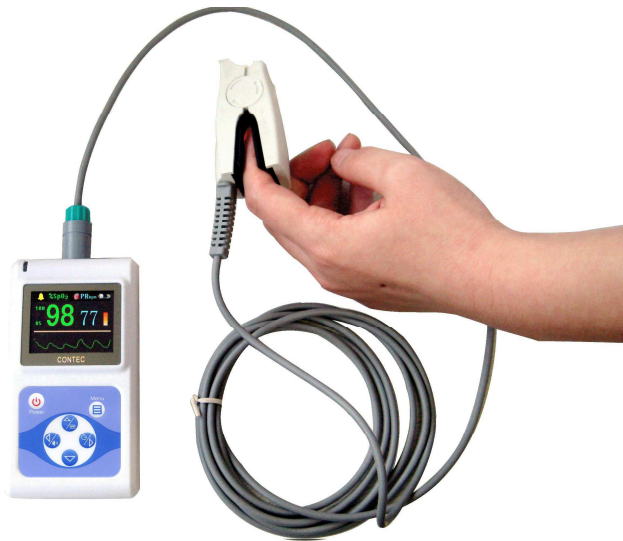

Figure5.
- b) Put the finger into the probe. Refer to Figure 5.
( Actual probe may be different with the probe as figure 5, please accept the actual probe with the device )
B. The finger should be in a proper position (see the attached illustration of figure 5 for reference), or else it may result in inaccurate measure.